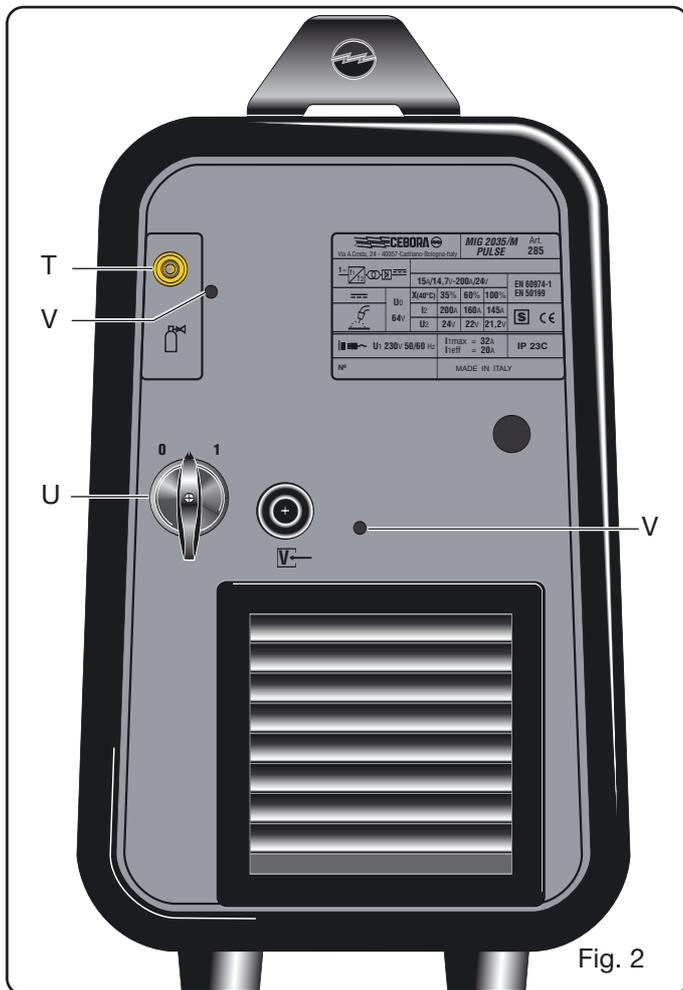

Fig. 2
3.3 COMANDOS NO PAINEL POSTERIOR (Fig.2)